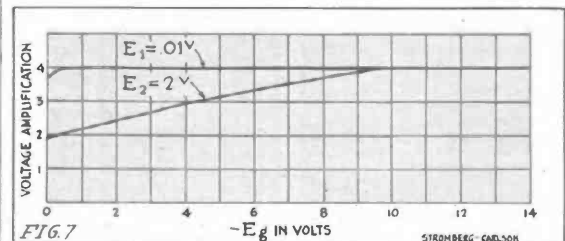

Fig. 7—Variation of Transformer Amplification With Negative Grid Bias
The same phenomenon is illustrated in another way by the curves of Fig. 7. Here the variation in transformer amplification with change in negative grid bias is shown for two 1000 cycle signals; 0.01 volt impressed (E) giving a fair signal on a head set connected in the tube output circuit, while two volts impressed gave a moderate loud speaker signal. A UV-201-A tube with 100-volt plate battery was used.